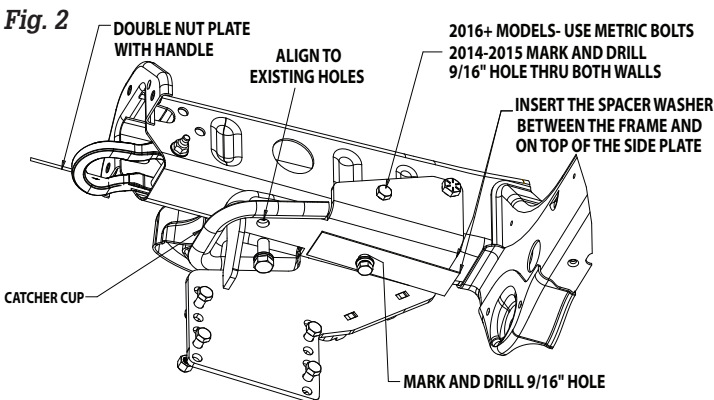

Fig. 2
7. Mark and drill the bottom hole with 9/16" drill bit. Be careful not to drill through the nut plate inside the frame. It is necessary to remove the double-nut plate prior to drilling. Mark and drill the upper hole with the 9/16" drill bit as well. Reinstall the side plate and secure them with proper fasteners provided. See Fig. 2.